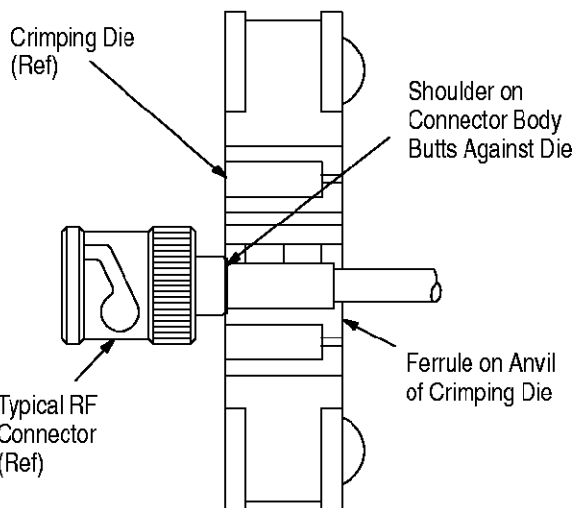

Figure 4
- Place the ferrule on the anvil of the die assembly so that the shoulder on the connector body is butted against the die. See Figure 4.